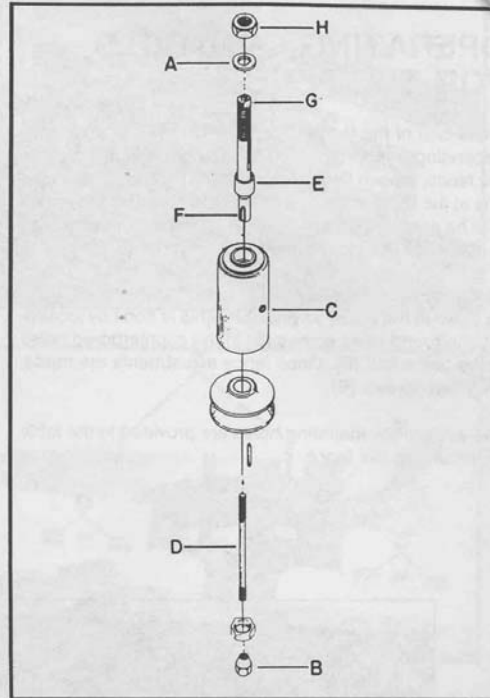

Fig. 20
1. Place wrench on flat (G) Fig. 20, on top of the spindle and loosen and remove tie rod nut (B).
2. Remove spindle and tie rod assembly from the spindle cartridge (C) Fig. 20, by lifting straight up.
3. Unscrew and remove tie rod (D) Fig. 20, from spindle (E) and assemble tie rod to new spindle.
4. When installing spindle, align notch (F) Fig. 20, located on the spindle, with pin located inside housing.
5. Always place "keyed" washer (A) Fig. 20, on spindle before screwing on nut (H). The "keyed" washer (A) prevents the nut (H) from loosening when spindle turns counterclockwise.